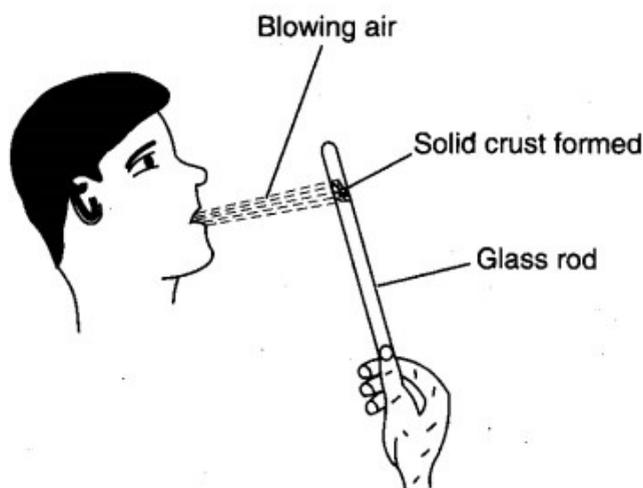

Fig. 5.7. Checking the crystallisation point.
2. When the volume of the solution is reduced to one-half, take out a drop of the concentrated solution on one end of glass rod and cool it by blowing air (Fig. 5.7). Formation of thin crust indicates that **crystallisation point** has reached.